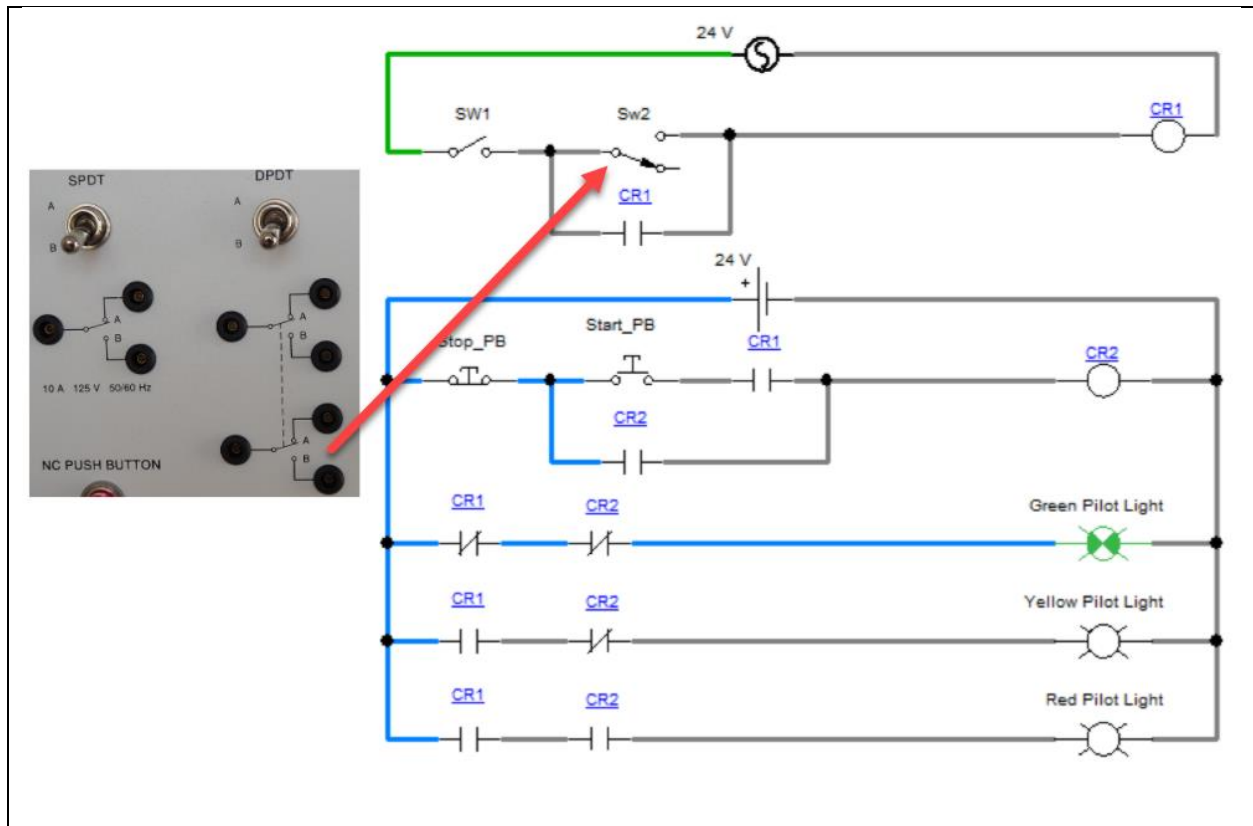

Figure 1. IND220 Lab 2.4 Circuit 1
*Use the lower portion of the DPDT switch for Sw2 (see Figure 1)
Figure 1 shows the first circuit of this lab that consists of an AC relay and a DC relay, with the contacts of each relay being used together to turn on 3 pilot lights, based on the relay contact
Answer the following few questions based on your review of the circuit in Figure 1: